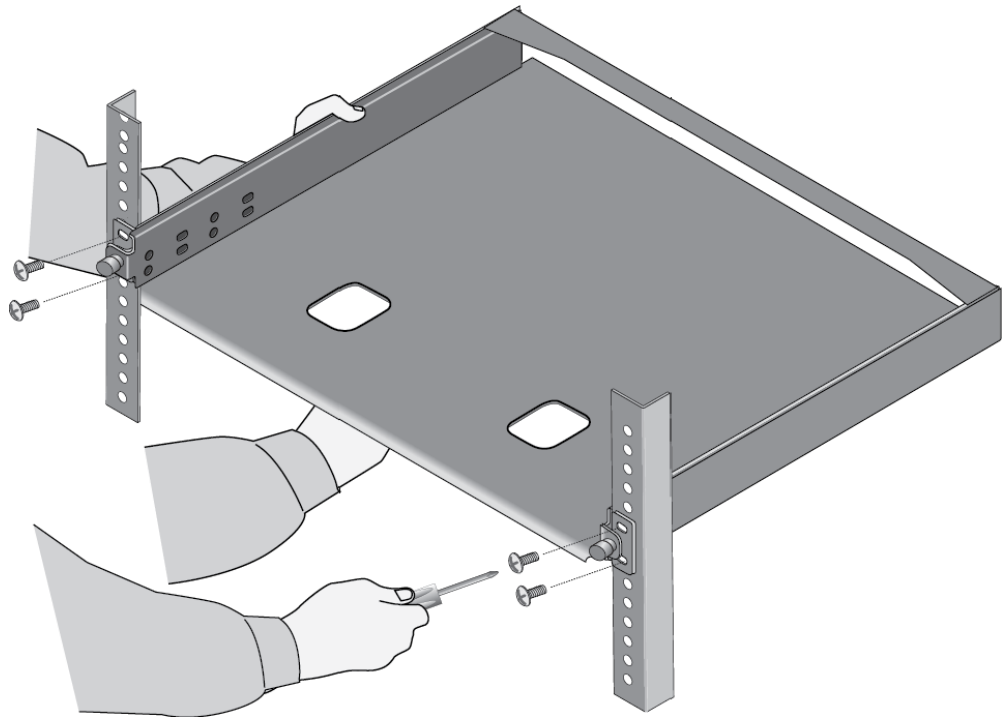

Figure 24. Installing the AT-RKMT-J15 Bracket in the Equipment Rack
1. Have another person hold the AT-RKMT-J15 Bracket at the desired location in the equipment rack while you secure it using four standard equipment rack screws (not provided). Refer to Figure 24.